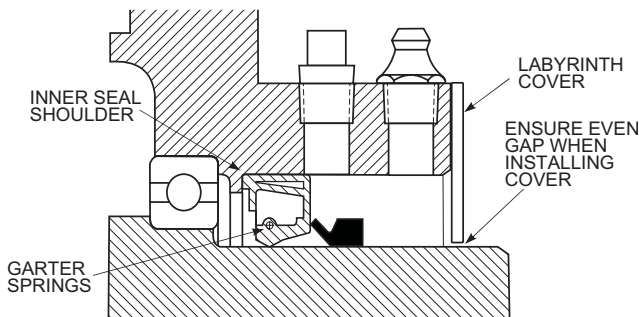

Figure 7
2. **Inner Seal** — Position the inner seal squarely in the end cover with the garter spring positioned per Figure 7.
7. Replace the labyrinth cover and screws. Ensure the gap between the inner cam and labyrinth cover is even all the way around. (See Figure 7.) Torque the bolts to 14-17 lb-ft (18-23 Nm).